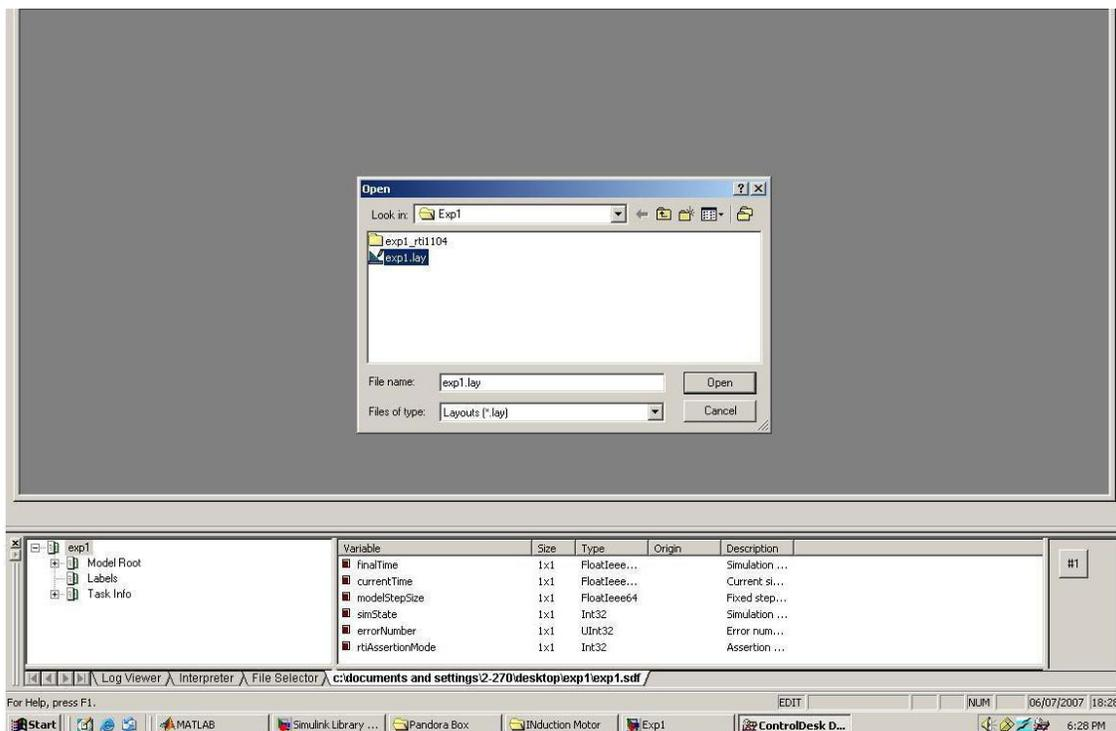
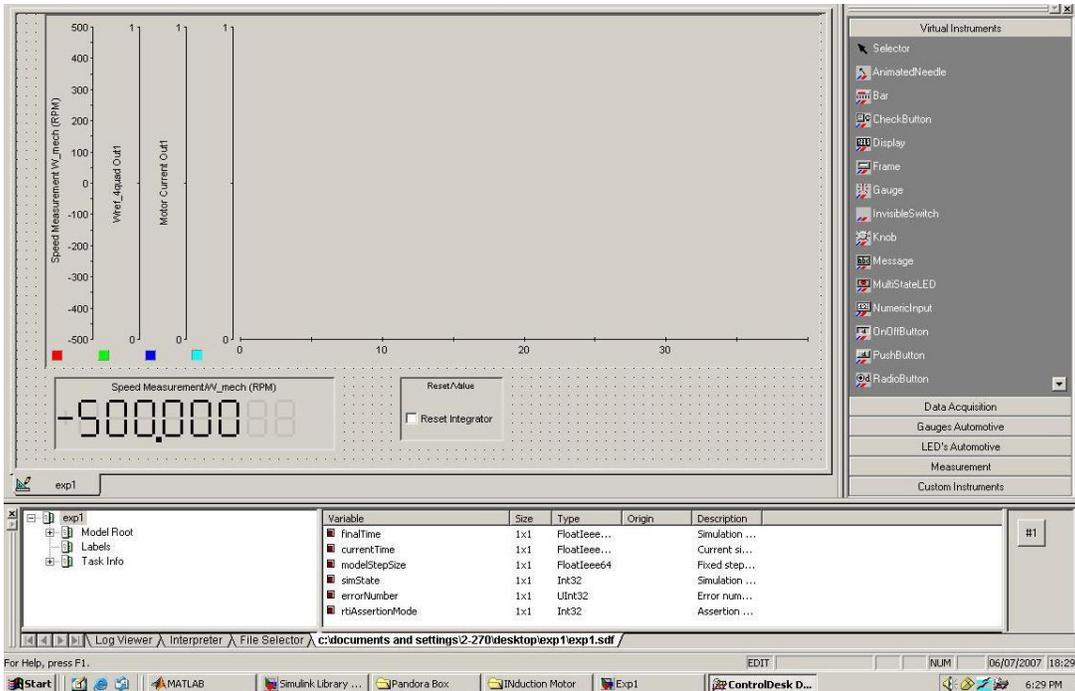
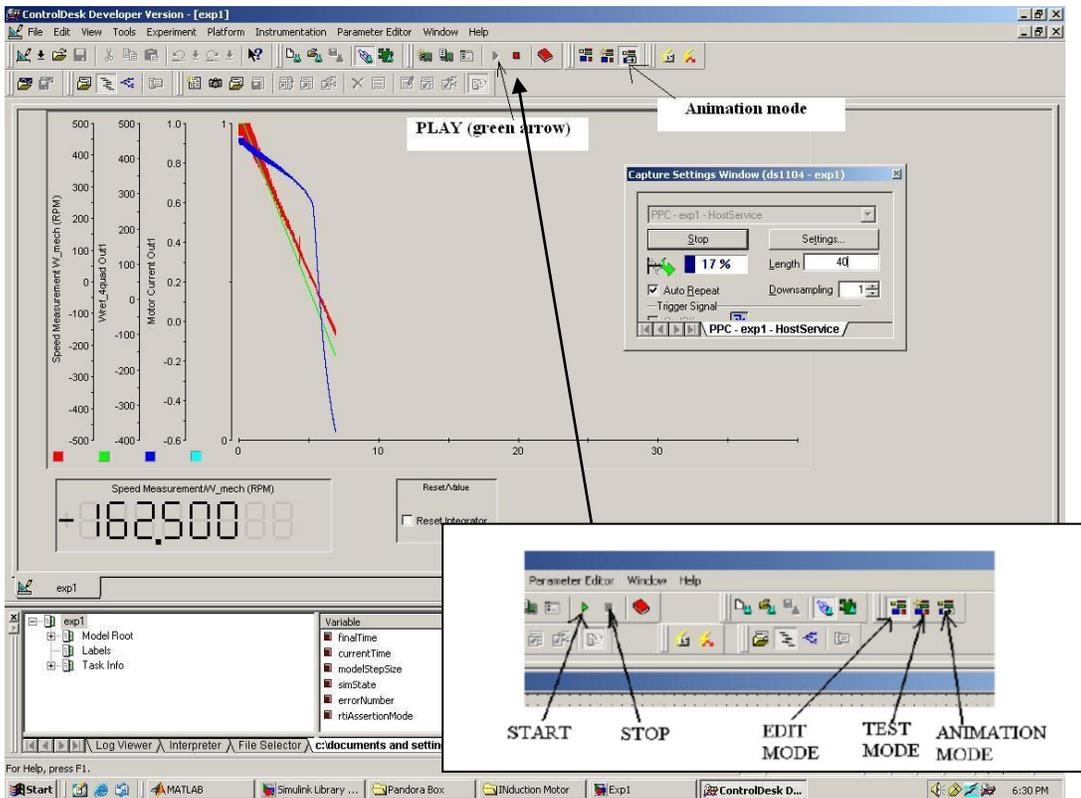
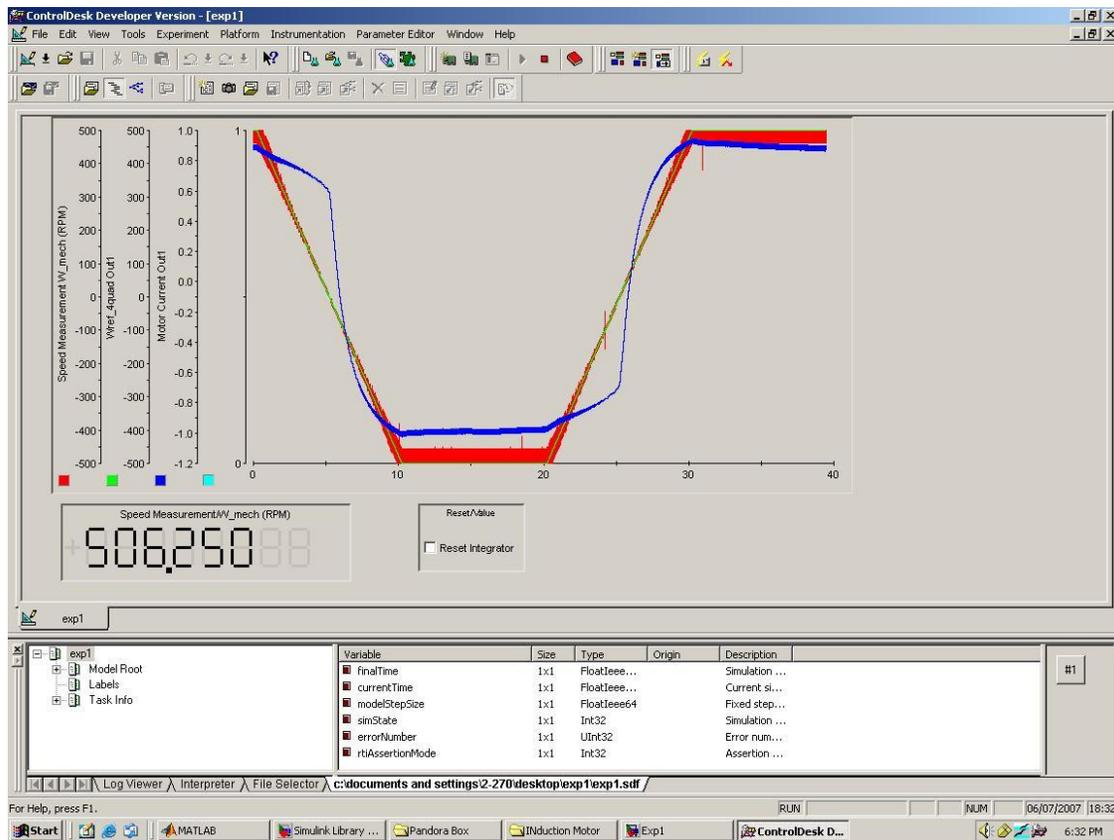

Figure 1.7: Control-desk panel, opening the layout
Figure 1.8: Control panel layout
Figure 1.9: Various control buttons, starting and stopping the system
Figure 1.10: Motor actual speed (red), reference speed (green) and phase current (blue)
double clicking on the **dSPACE ControlDesk** icon. The icon should be located on the desktop of the computer; the opened control-desk is shown in Fig 1.7 (ignore the lower panel window shown in Fig. 1.7 at this moment, and also the pop-up window showing Exp1.lay). Click **File->Open Variable File**. A pop-up window will appear, locate the **Exp1.sdf** file in the directory **Exp1** and click **Open**. Now you should be able to see the lower panel window shown in Fig 1.7. Click **File->Open**, the pop-up window will appear again asking for layout file this time. Locate the file **Exp1.lay** as shown in Fig 1.7 and click **Open**. Click **yes** if a pop-up box opens asking for data-connection. The layout thus opened should look as shown in Fig. 1.8. At this stage the control panel of the control-desk is ready to communicate or transfer data with DS1104 via CP1104. Click **Start (PLAY)** and switch to the **Animation mode**. The motor will start running. It will rotate in the positive direction for some time and in the negative direction for some time, i.e. the direction of rotation alternates. Right click on the graph and select **edit capture** setting, and set the capture setting as shown in Fig 1.9.
- You should be able to observe the speed of the motor on control panel (Fig. 1.9). The waveform for motor phase current, reference speed and actual speed is also shown. Press the button **Edit mode** and then press **STOP**. Take the waveform as shown in Fig 1.10. Study the explanations detailed next. The control-desk is able to access the following data with the help of **Exp1.sdf** file:
- The motor will receive the PWM voltage at its terminals and hence start rotating. It will speed up; the current in the winding will increase. Since the speed and the current of the motor thus increased are fed back to DS1104 in real-time, the DS1104 will take the next action as per **control-system**. DS1104 will change the pattern of digital signal to change the speed of the motor such that the motor will achieve the speed as commanded in the **control-system** (block **Wref_4quad**). Note that, the speed command in **control-system** is alternating; hence the motor alternates its direction of rotation. The instantaneous motor speed and current is shown in Fig 1.10.